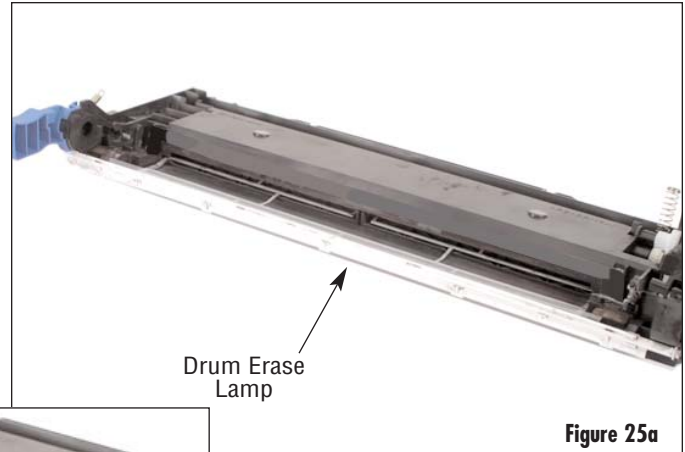

Figure 25a
10. Clean the waste bin and drum erase lamp with ionized, dry, filtered, compressed air (Figure 25a & 25b). Be very careful not to damage the drum erase lamp or recovery blade during waste toner removal.